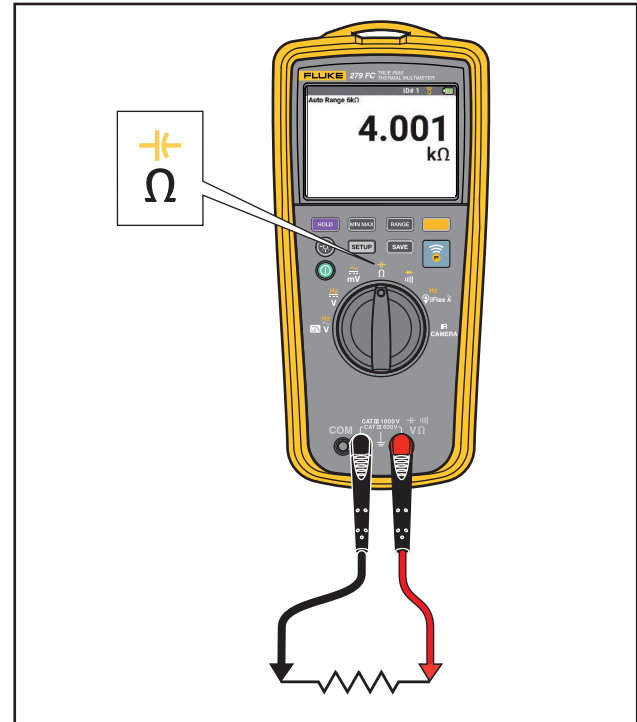

Figure 7. Resistance Measurements
- Resistance Measurements. See Figure 7.
The Multimeter sends a small current through the circuit for resistance measurements. Because the current flows through all possible paths between the probes, the resistance measured is the total resistance of all paths between the probes. See Figure 7.